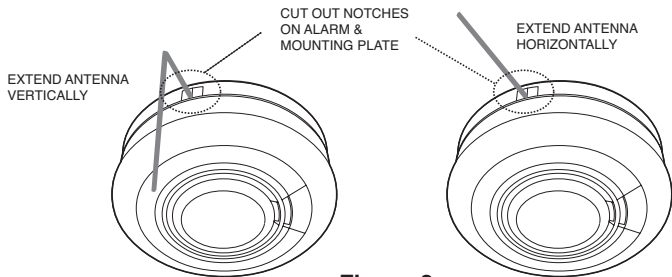
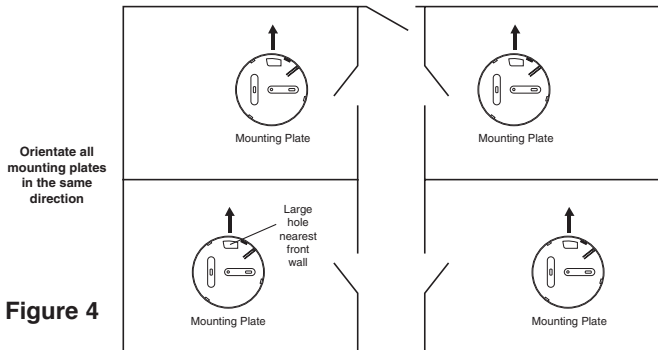

Figure 3
Figure 4
- (ii) Remove the module and extend the antenna vertically (or horizontally) as shown in figure 3. (For maximum RF signal strength orientate all the antennas in the same direction - see Figure 4).